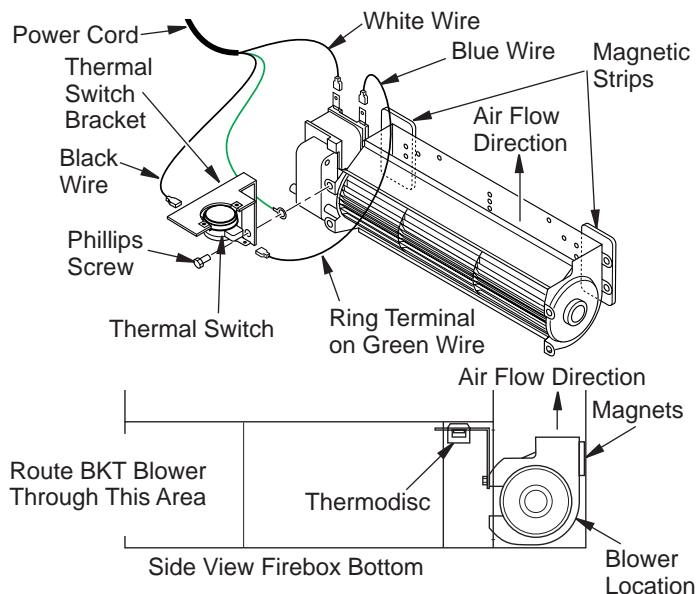

Figure 28 - Blower Model BKT
1. Place the green ground wire with ring terminal between the bottom hole on the thermal switch bracket and the top ear hole on the blower assembly. Insert the Phillips screw into all three pieces and tighten securely (see Figure 28, page 16).
3. Place the blower against the lower rear wall of the firebox outer wrapper with the exhaust port directed upward and the thermodisc positioned up near the fireplace bottom. The thermodisc must be oriented near the fireplace bottom as shown in Figure 28 in order to sense temperature and properly operate. The blower will be held in position against the back wall by the magnets incorporated onto the blower housing (see Figure 28).